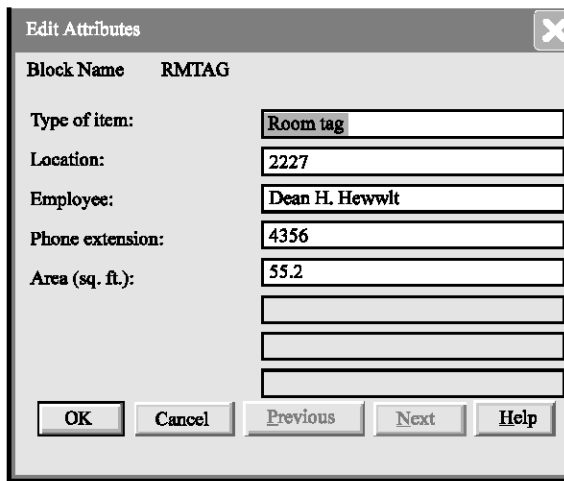

Fig. 10: Showing the default values of the attribute
- Select block: Select the room tag (1)
- AutoCAD display the Edit Attribute dialog box as illustrated in Fig. 10.
- Select block: Select the telephone (2)